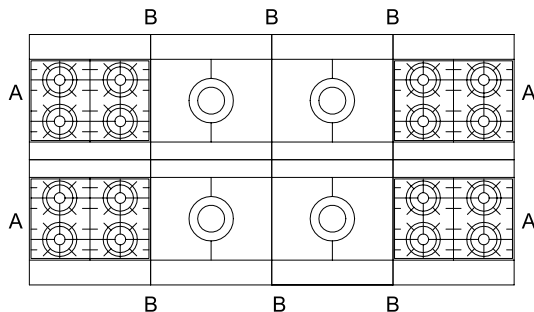

Figure 4
e.g. in the eight model suite shown in Figure 4, there would only be outer panels at A.